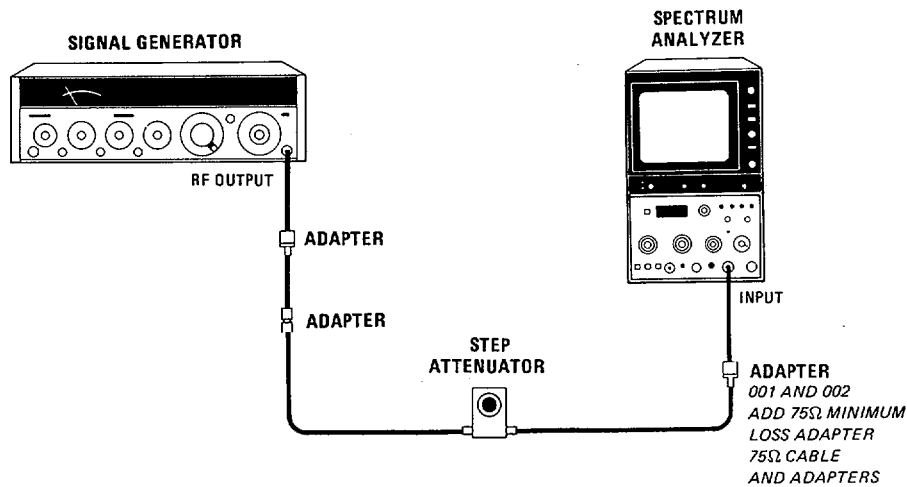

Figure 4-18. Input Attenuator Accuracy Test Setup
2. Connect equipment as shown in Figure 4-18 with step attenuator set at 0 dB. Locate signal on CRT and adjust signal generator OUTPUT LEVEL until signal peak is 6 divisions above graticule baseline.